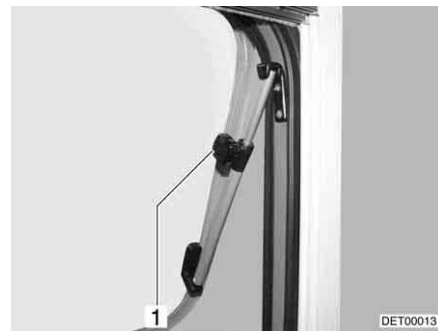

Fig. 71 Hinged window with rotary hinges, open
- Open the hinged window until the required position has been reached and use knurled knob (Fig. 71,1) to secure in position.
- Turn knurled knob (Fig. 71,1) until the latch is released.